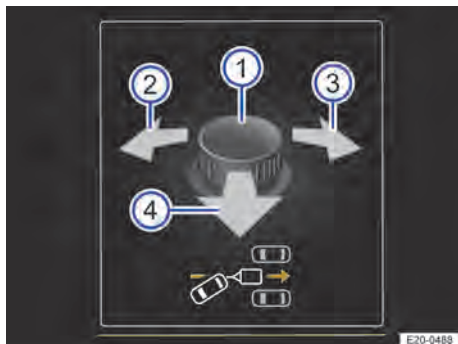
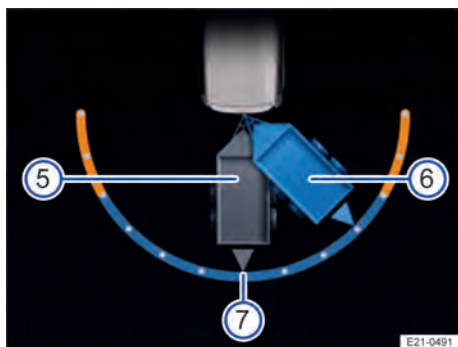

Fig. 136 On the instrument cluster display: adjusting the angle of the trailer using the switch for the exterior mirrors.
Fig. 137 On the instrument cluster display: adjusting the direction of travel of the trailer.
4. Tilt the switch until the desired direction is reached → Fig. 136 ❶. A diagram showing the current position of the trailer appears on the instrument cluster display for orientation purposes → Fig. 137 ❺.
6. Correct the angle with the switch if necessary → Fig. 136 ❶.
7. Push the switch to the left ❷ or right ❸ to select the direction of travel.
8. Pull the switch to the rear ❹.